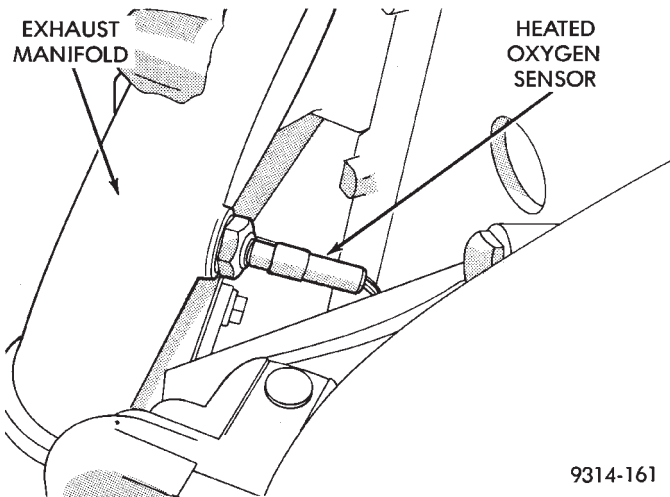
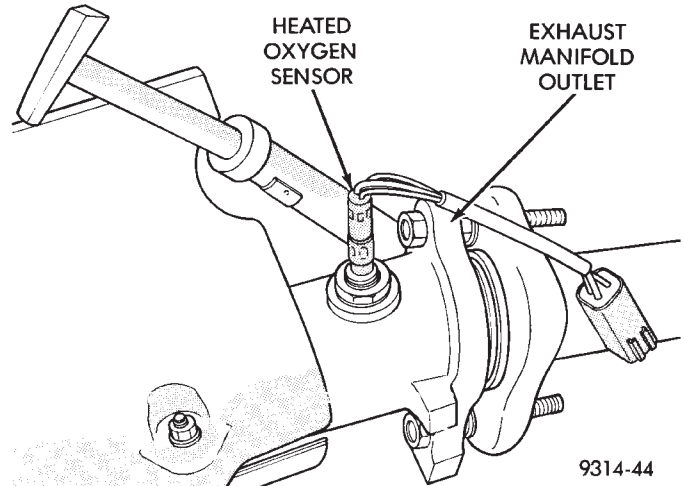

Fig. 51 Heated Oxygen Sensor—3.3L Engine
Fig. 52 Heated Oxygen Sensor—3.5L Engine
(20) Ensure the electrical connectors are attached to the upstream heated oxygens sensors (Fig. 51) or (Fig. 52).